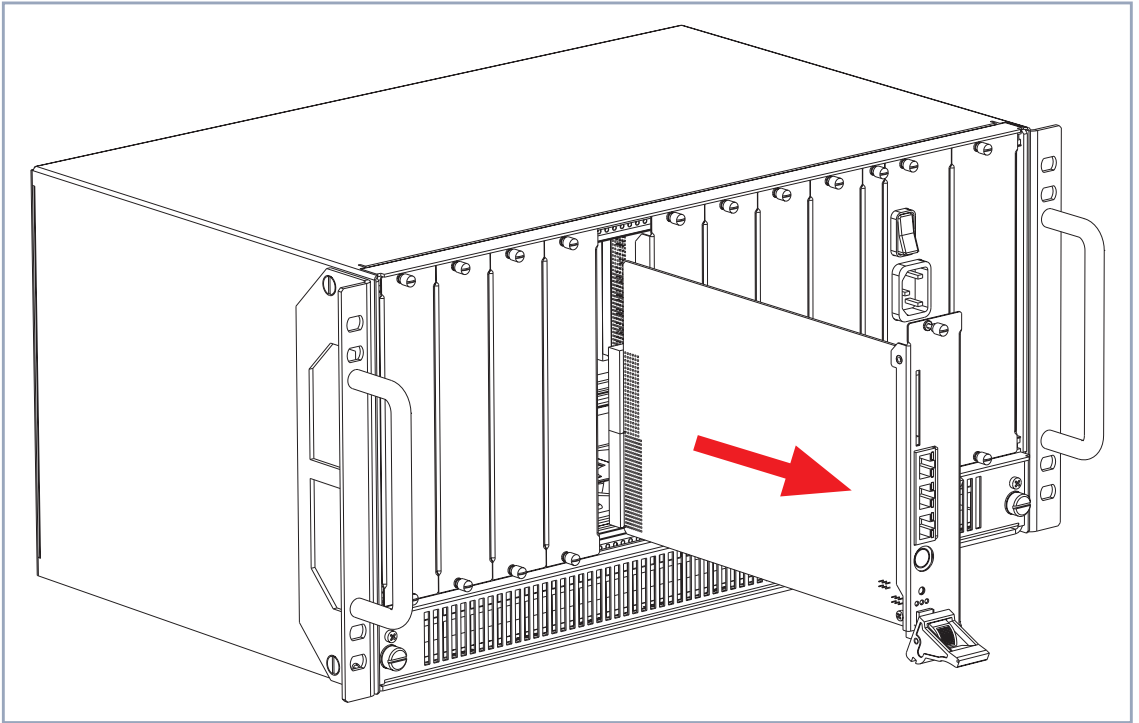

Figure 4-8: Removing an expansion card, step 3
- Draw the expansion card out of the slot as shown in figure 4-8, page 41. The expansion card is removed.
- Draw the expansion card out of the slot as shown in figure 4-8, page 41.